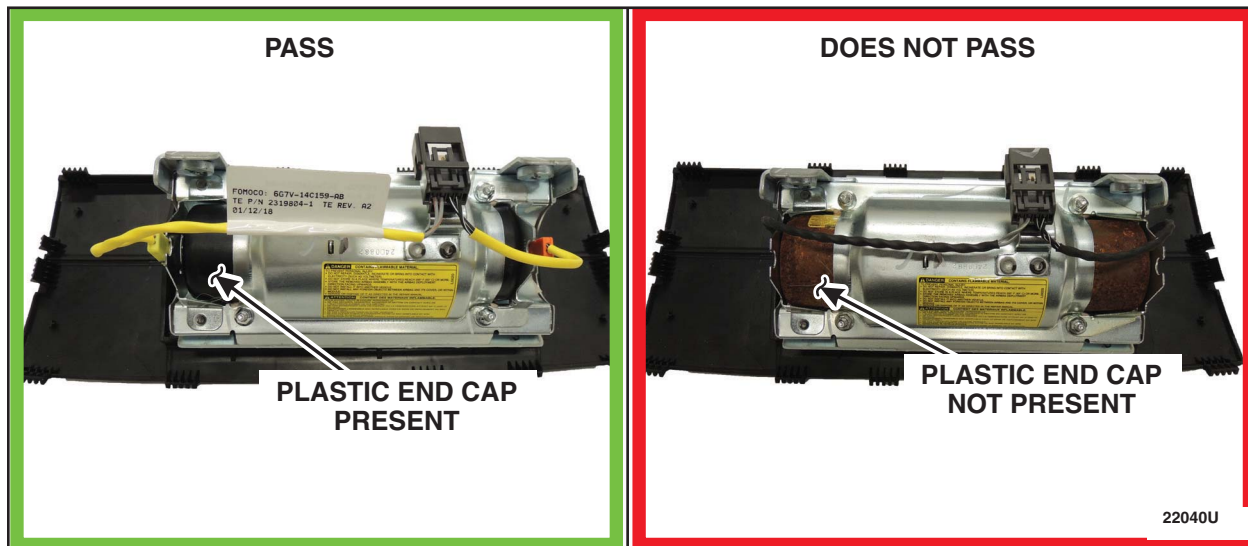

FIGURE 1
3. Inspect the passenger airbag inflator end for the presence of a plastic end cap as shown in Figure 1.
Yes: Inspection **PASS** See Figure 1. - No Repair Is Needed
No: Inspection **DOES NOT PASS** See Figure 1. – **REPAIR IS REQUIRED**